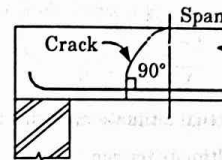

Fig. 2.14.2. Flexural shear failure.
- Flexural Shear Failure :** Flexural failure occurs under large bending moment and less shear force. Such type of failure in RC beams in the forms of crack at  $90^\circ$  with the horizontal is shown in Fig. 2.14.2.